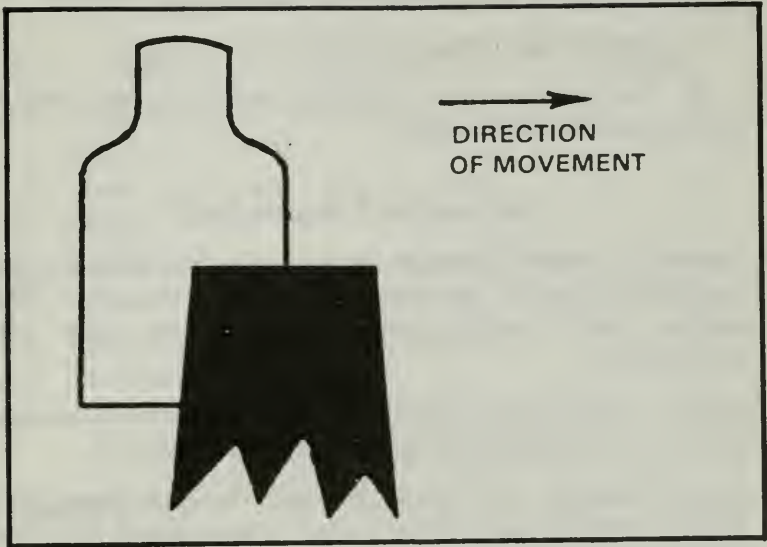

Figure 120. Engaging moving targets using the single lead
(1) The enemy normally moves by rushes from one covered or concealed position to another.
(2) While making the rush, the enemy soldier presents a rapidly moving target. However, for a brief moment, as he begins and ends the rush, the movement is usually slow, and he is vulnerable to aimed rifle fire.
(3) A target moving directly toward the soldier can be engaged in the same manner as a stationary target.
(4) The new method for engaging moving targets is to use the single lead. To use this method, the firer places the trailing edge of the front sight post at the target center. This single lead method is applied for all laterally moving targets at all ranges moving all angles and at all speeds. This single lead causes the lead to automatically increase as the range to the target increases (Figure 120).
(5) When engaging multiple targets (two or more), fire at the one presenting the greatest danger, normally the nearest one. Then rapidly shift to fire at the remaining targets before they can take cover.
(6) When engaging multiple targets where more than one magazine is used, the soldier must be able to reload quickly to engage additional targets.